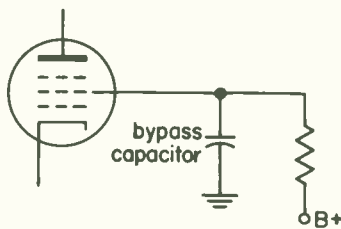

Fig. 19
6. Figure 19 shows the screen circuit of an audio amplifier tube. A bypass capacitor is used to short an unwanted a-c voltage to ground while leaving the d-c voltage unchanged. What must the value of the bypass capacitor be if it is to offer 10 ohms reactance to the unwanted a-c voltage at 100 kc? _____